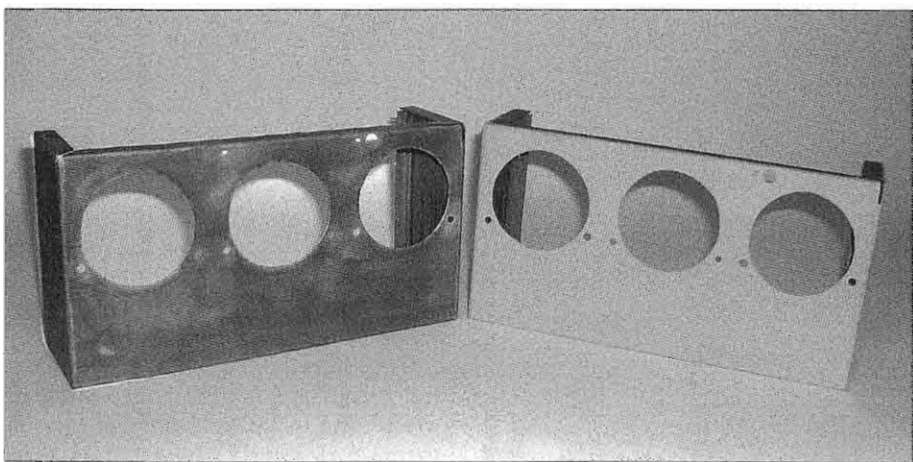

Figure 10: Here are the meter boxes as they look during the chemical treatments described in the text.
5. Soak the part in (or swab it with) PPG DX503 Aluminum Conditioner (chromic acid) for two or three minutes. The aluminum will acquire a golden coating like the meter box on the left in **Figure 10** [page 30].
7. Prime the part with Zinc Chromate Primer spray. Maintain good ventilation and use a mask (no, not the Lone Ranger kind). The aluminum will look like the meter box on the right in **Figure 10**.